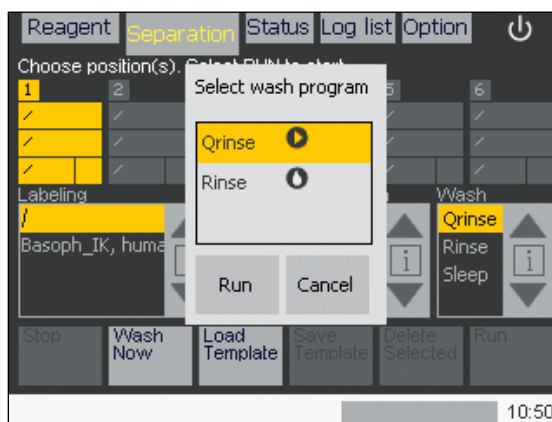

Figure 3.9: Select **Rinse** to prime the autoMACS Pro Separator.
- 1 Press the shutdown button at the upper right hand corner of the screen (see figure 3.9).